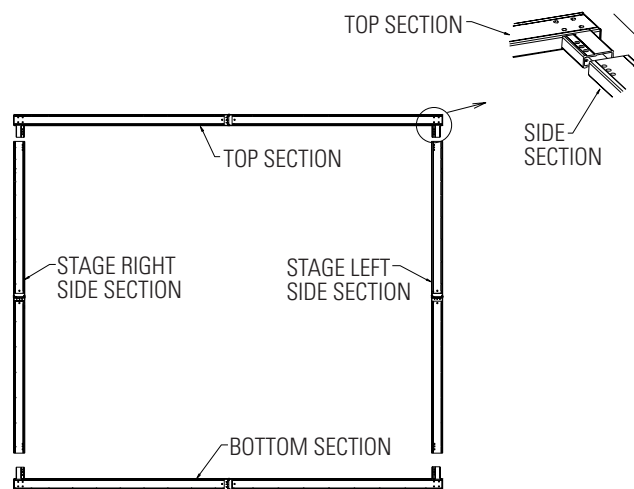

FIGURE 2
2. Attach top and bottom sections to side sections and tighten the Speedy Cranks securely. See figures 2 and 3. Mount Back Braces to the top and bottom sections (for screens 22' and wider) and tighten the winghead screws securely.